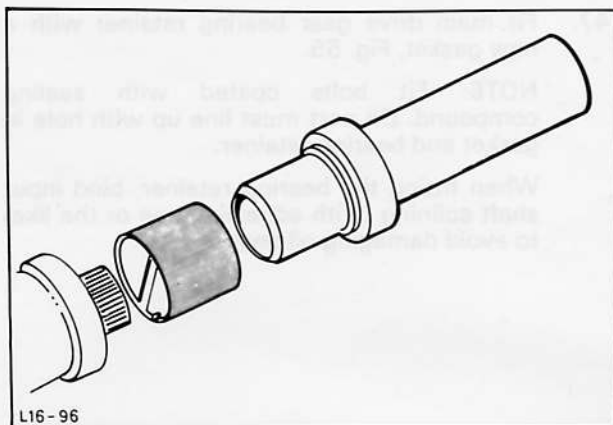

Fig. 58. Press in extension housing bush with Special Tool No. 16-015
50. Fit extension housing bush with Special Tool No. 16-015, Fig. 58.